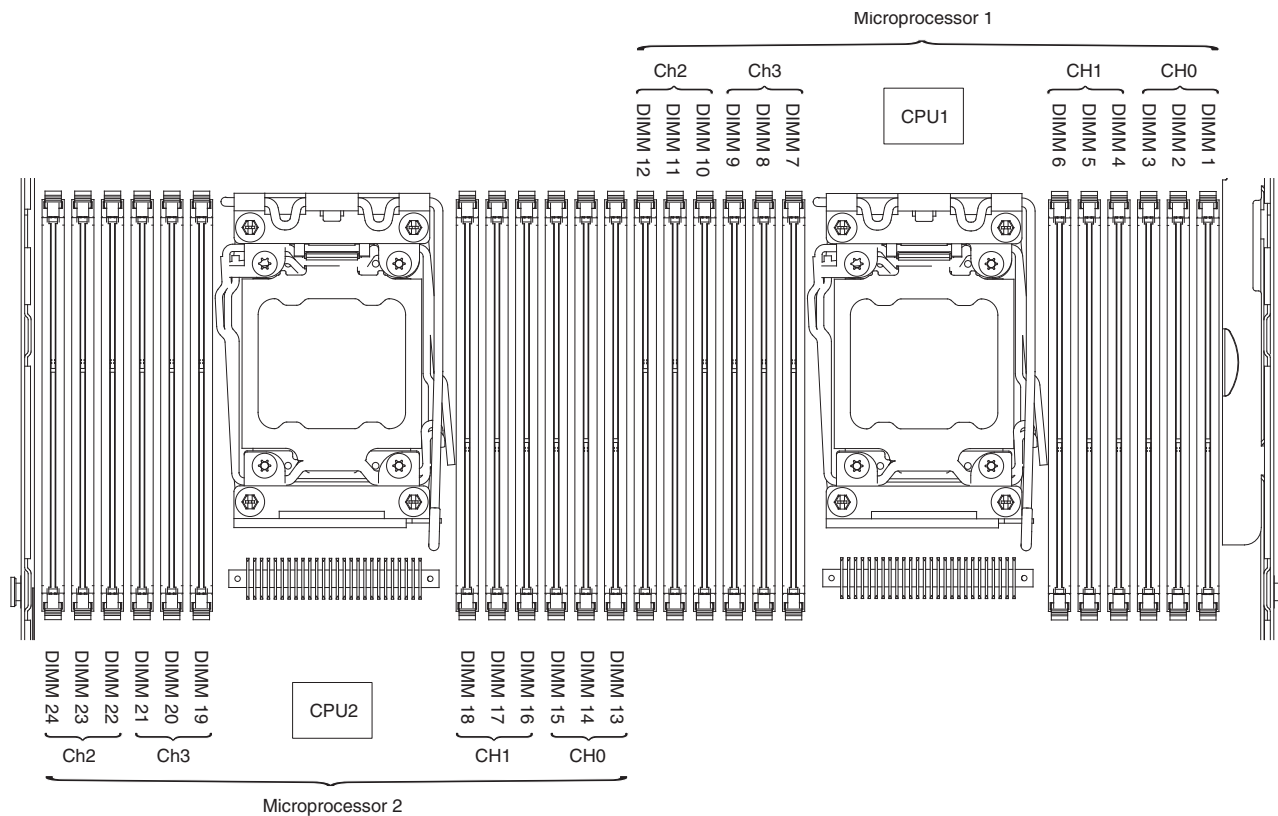

Figure 76. Locations of the DIMM connectors on the system board
- The SAN Volume Controller 2145-DH8 node uses four modules in DIMM slots 1, 4, 9, and 12 (and four modules in slots 13, 16, 21, and 24 if the second processor is fitted), as shown in Figure 76 on page 93.